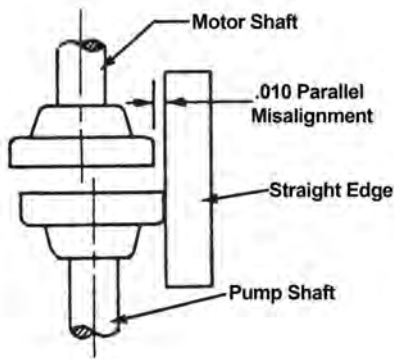

Fig. 2
1. Check **Parallel Alignment (Fig. 2)** by placing a straight- edge across the two coupling flanges and measuring the maximum offset at various points around the periphery of the coupling. If